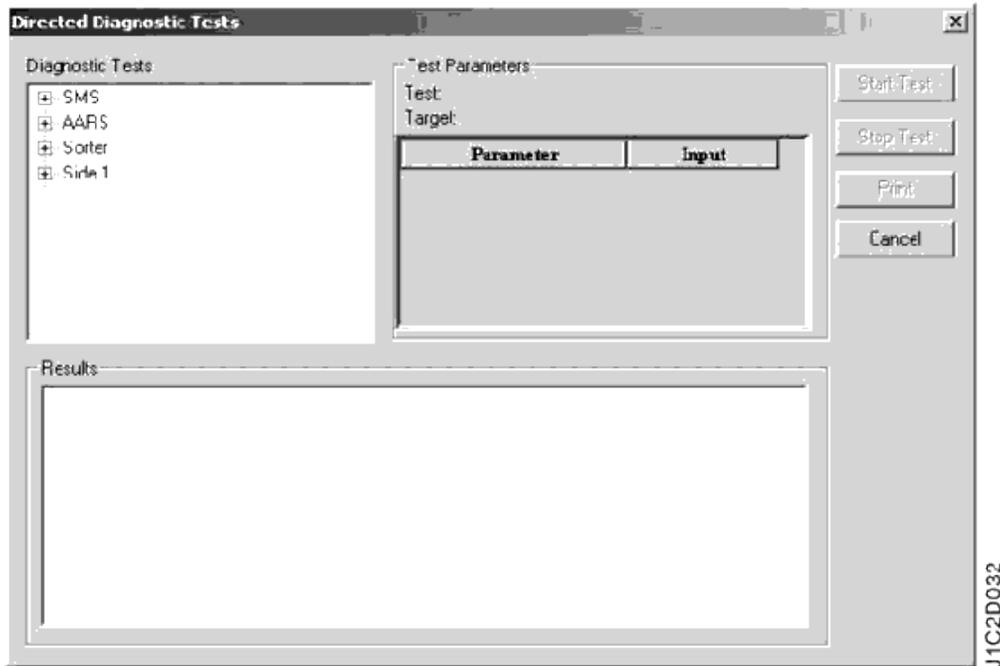

Figure 2-2. Directed Diagnostics Tests Dialog
- Click **plus sign (+)** to the left of **Side 1** (Figure 2-2).